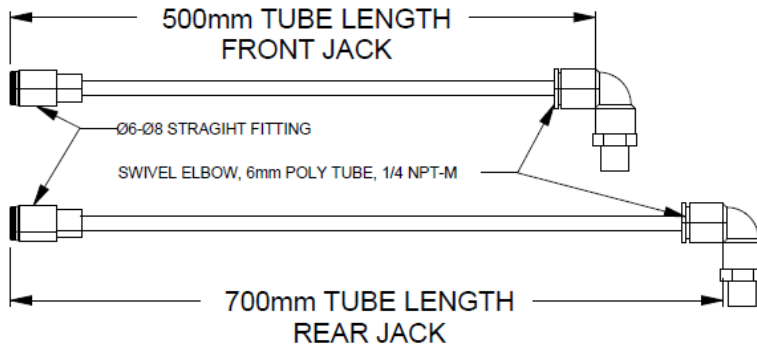

Figure 5
1. When coiled hoses are attached to the jacks with the clamps provided, cut the provided  $\text{\O}6\text{mm}$  OD plastic tubing into lengths shown in Figure 5 before installation and attach fittings by pushing onto end of tubing.